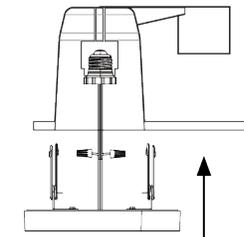

Fig. 15
4. Use wire connectors to connect wires (black to black, white to white). Insert fixture into recessed housing and lock the torsion springs into place to install fixture. (Fig. 15)